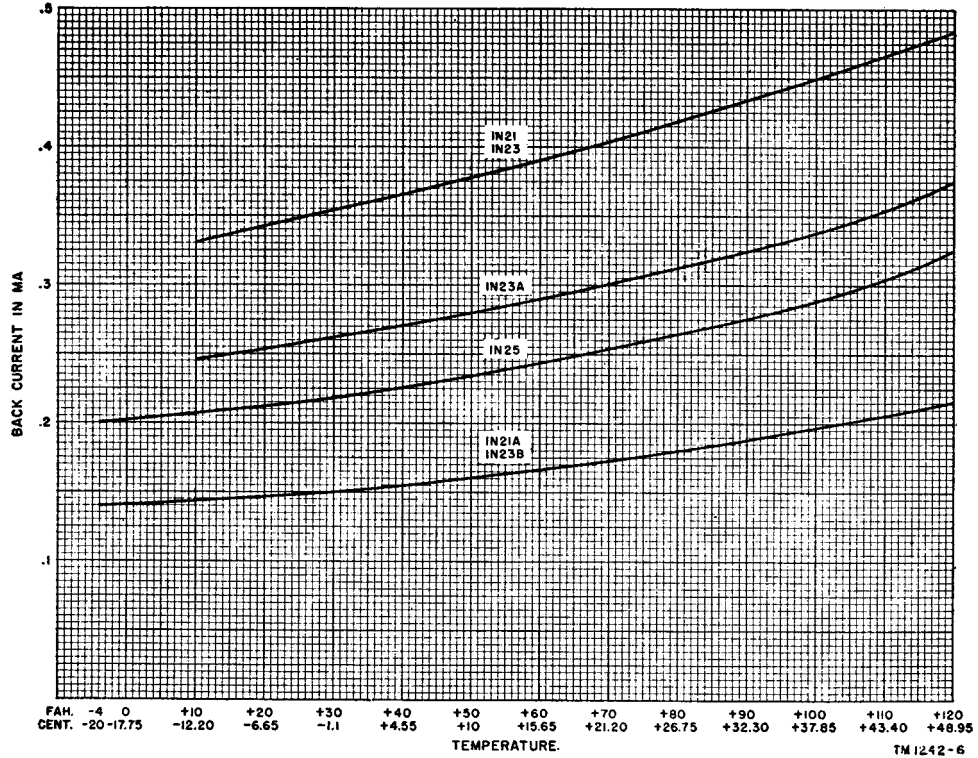

Figure 13. Allowable crystal limits.
*Note.* Figure 13 represents the allowable crystal limits for all the crystal rectifiers at different ambient temperatures ranging from  $-4^{\circ}$  F. to  $+120^{\circ}$  F.